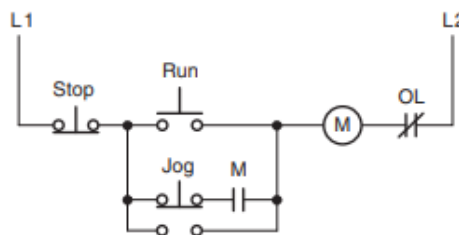

Figure 2
- Design a PLC program and prepare a typical I/O connection diagram and ladder logic program that will correctly execute the hardwired control circuit in Figure 2 . Assume: Stop pushbutton used is an NO type. Run pushbutton used is an NO type. Jog pushbutton used has one set of NO contacts. OL contact is hardwired.